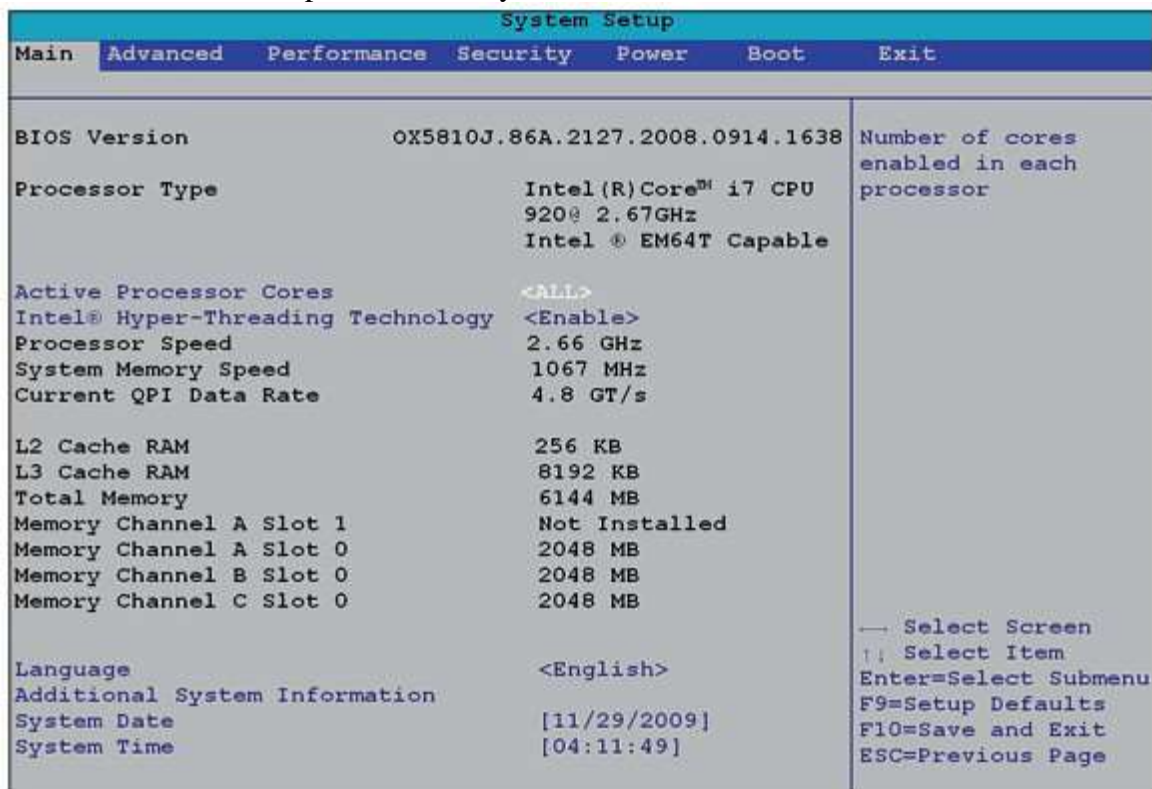

Figure 5.5:BIOS screen.
2. Look at your screen (as shown in Fig. 5.5), the RAM is automatically identified by the BIOS, ensure that the setup is set correctly.